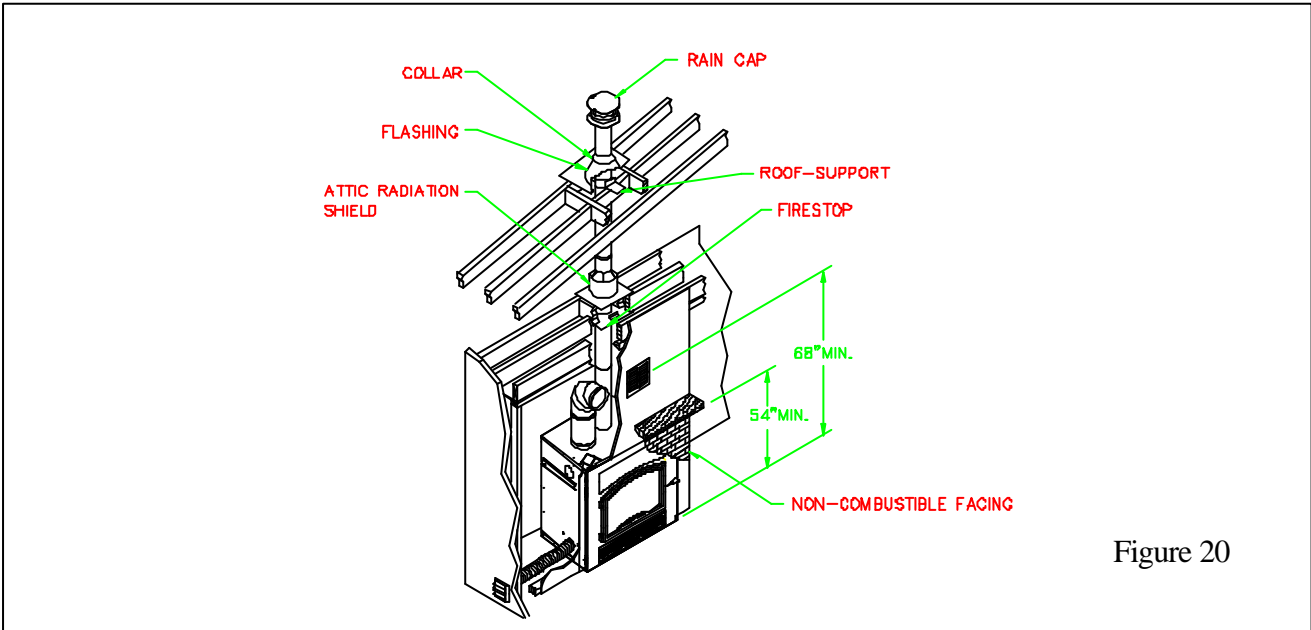

Figure 20
- c) The fireplace façade can be covered with non-combustible material (fig. 20).